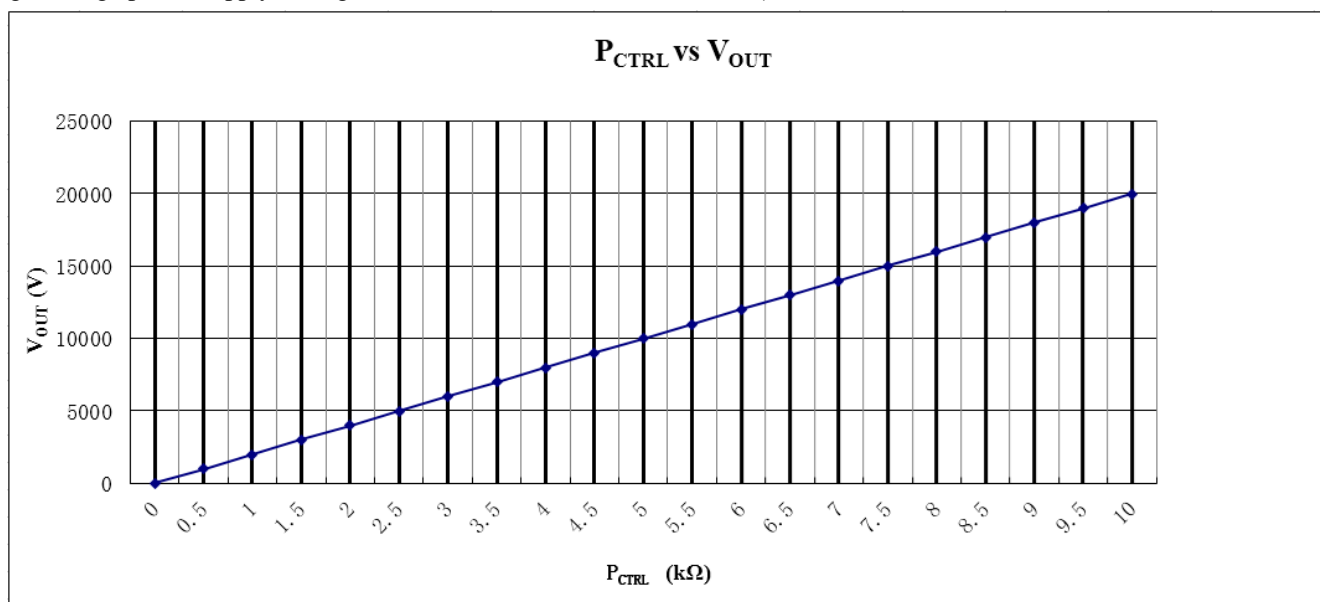

Figure 4.  $P_{CTRL}$  VS.  $V_{OUT}$
5. HV adjustment: 10-turn potentiometer for adjusting output voltage. Rotate it clockwise to increase the output voltage, and the potentiometer resistance = the corresponding scale  $\times$  10 $\Omega$ . For example, as Figure 4 shows, when the scale is 10, and the frame above the scale shows 1 (1k $\Omega$ ), then the resistance =  $10 \times 10\Omega + 1k\Omega = 1.1k\Omega$ , and the like.